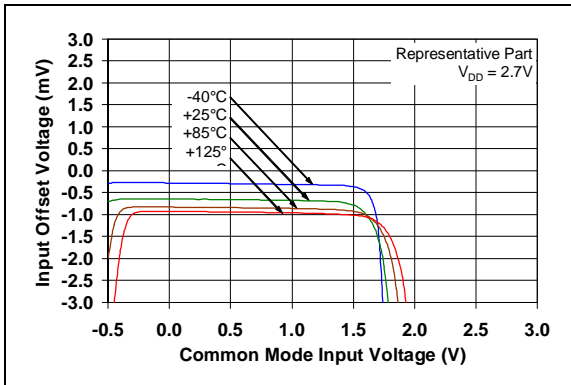

**FIGURE 1-1:** AC and DC Test Circuit for Most Specifications.
Electrical Characteristics: Unless otherwise indicated, $T_A = 25^{\circ}C$ , $V_{DD} = 5.0V$ , $V_{SS} = GND$ , $V_{CM} = V_{SS}$ , $V_{OUT} \approx V_{DD}/2$ , $V_L = V_{DD}/2$ , and $R_L = 10$ k $\Omega$ to $V_L$ (refer to <a href="#">Figure 1-1</a> ).
**Electrical Characteristics:** Unless otherwise indicated,  $T_A = 25^\circ\text{C}$ ,  $V_{DD} = +5.0\text{V}$ ,  $V_{SS} = \text{GND}$ ,  $V_{CM} = V_{SS}$ ,  $V_{OUT} \approx V_{DD}/2$ ,  $V_L = V_{DD}/2$ ,  $R_L = 10\text{ k}\Omega$  to  $V_L$  and  $C_L = 60\text{ pF}$  (refer to Figure 1-1).
The circuit used for most DC and AC tests is shown in Figure 1-1. This circuit can independently set  $V_{CM}$  and  $V_{OUT}$ ; see Equation 1-1. Note that  $V_{CM}$  is not the circuit's common mode voltage ( $(V_P + V_M)/2$ ), and that  $V_{OST}$  includes  $V_{OS}$  plus the effects (on the input offset error,  $V_{OST}$ ) of temperature, CMRR, PSRR and  $A_{OL}$ .